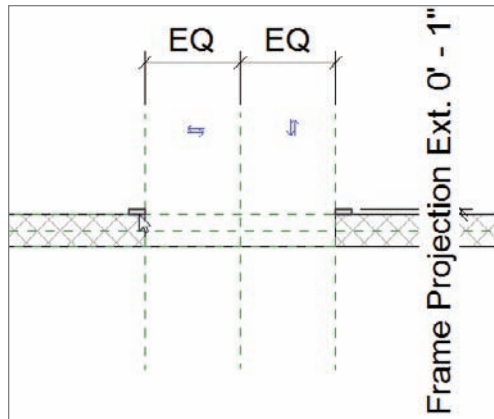

FIGURE 17.13 Deleting the jambs from either side of the door
3. The first thing you will notice is that quite a bit of work has been done for you. This is great, but you don’t need all the items in the template. Select the doorjamb, as shown in Figure 17.13, and delete them from either side of the door.